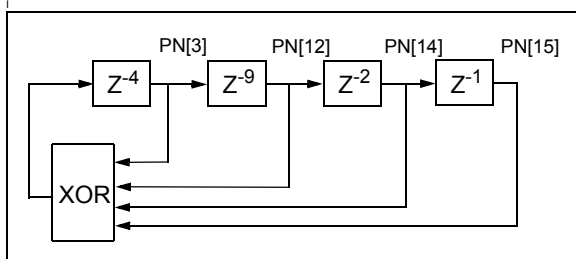

FIGURE 4-26: Block Diagram of 16-bit LFSR for Pseudo-Random Number (PN) Sequence for Output Test Pattern.
4.15.1 PSEUDO-RANDOM NUMBER (PN) SEQUENCE OUTPUT
When TEST_PATTERNS<2:0> = 111, the device outputs a pseudo-random number (PN) sequence which is defined by the polynomial of degree 16, as shown in Equation 4-9. Figure 4-26 shows the block diagram of a 16-bit Linear Feedback Shift Register (LFSR) for the PN sequence.